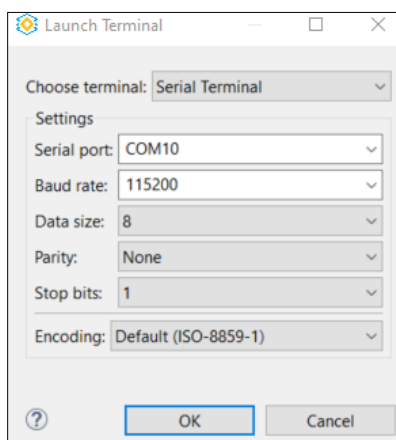
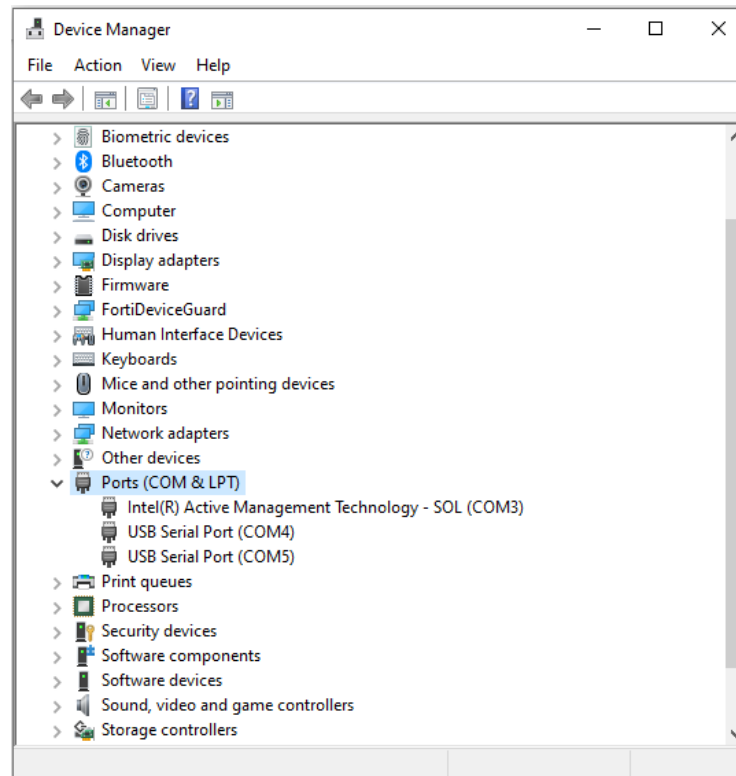

Figure 6.5. UART Launch Terminal Window
Figure 6.6. Device Manager Window on PC
4. Select **Serial Terminal** as shown in Figure 6.5. In Serial port dropdown list, select the last COM in the list as shown in Figure 6.6.